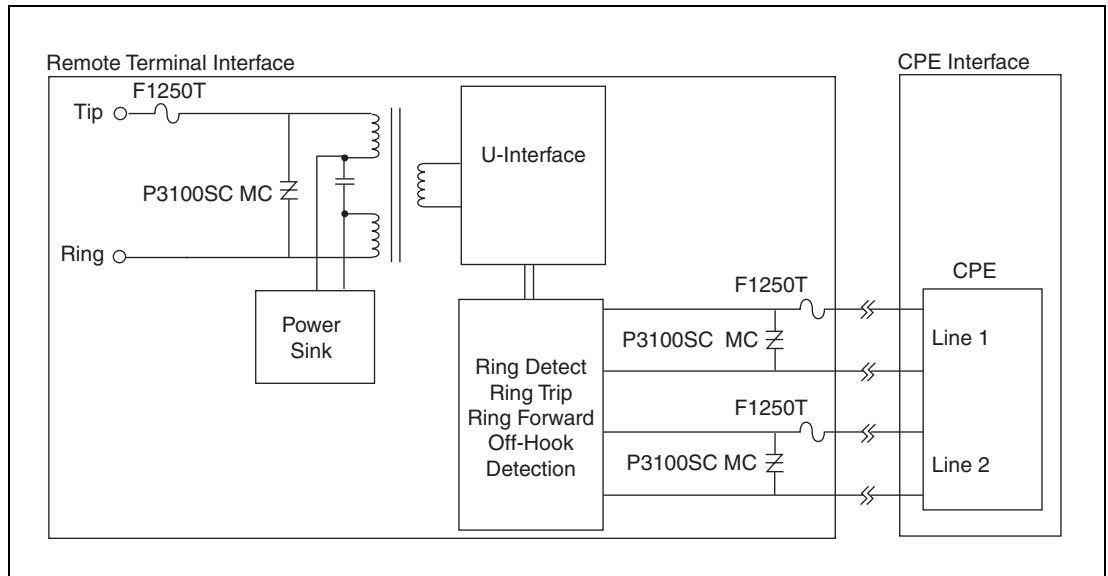

Figure 3.15 Pair Gain RT Protection
For Customer Premises (CP) and Remote Terminal (RT) interfaces where an earth ground connection is not used, only metallic protection is required. Figure 3.15 shows metallic protection satisfied using a single P3100SC MC across Tip and Ring and a single F1250T on either Tip or Ring to satisfy metallic protection.